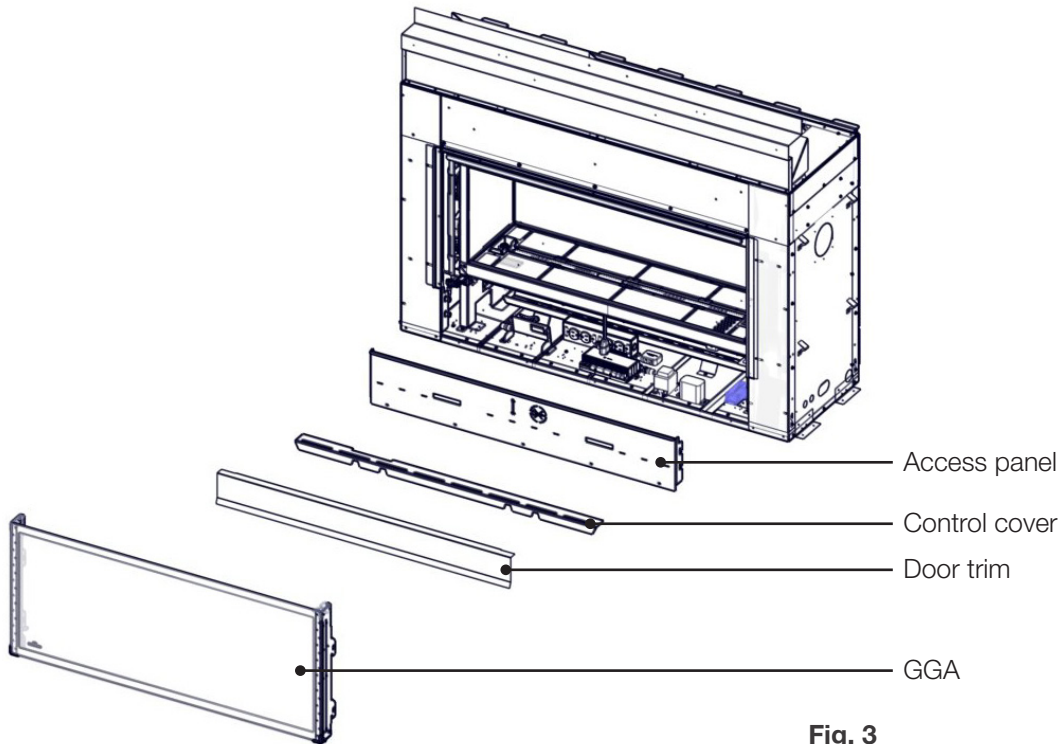

Fig. 3
3. For ease of installation during preliminary adjustment, remove the door trim, control cover and access panel (Fig. 3).